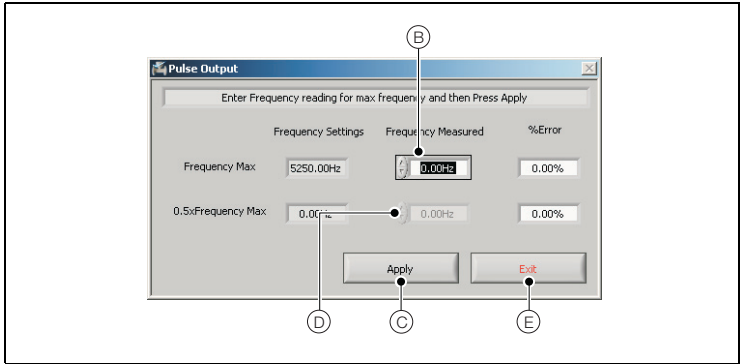

Fig. 3.13 Pulse Output Dialog
- Referring to Fig. 3.13 – in the 'Frequency Measured' field (B) (associated with 'Frequency Max'), type the measured frequency (A) (from step 3) for pulse output 1.
- Click 'Apply' (C). The '%Error' field displays any difference between the pulse output and the expected value.
- In the 'Frequency Measured' field (D) (associated with '0.5xFrequency Max'), type the measured frequency (A) (from step 3) for pulse output 1.
- Click 'Exit' (E).
13. Referring to Fig. 3.13 – in the 'Frequency Measured' field (B) (associated with 'Frequency Max'), type the measured frequency (F) (from step 11) for pulse output 2.
14. Click 'Apply' (C). The '%Error' field displays any difference between the pulse output and the expected value.
15. In the 'Frequency Measured' field (D) (associated with '0.5xFrequency Max'), type the measured frequency (F) (from step 11) for pulse output 2.
16. Click 'Apply' (C). The '%Error' field displays any difference between the pulse output and the expected value.
17. Click 'Exit' (E).